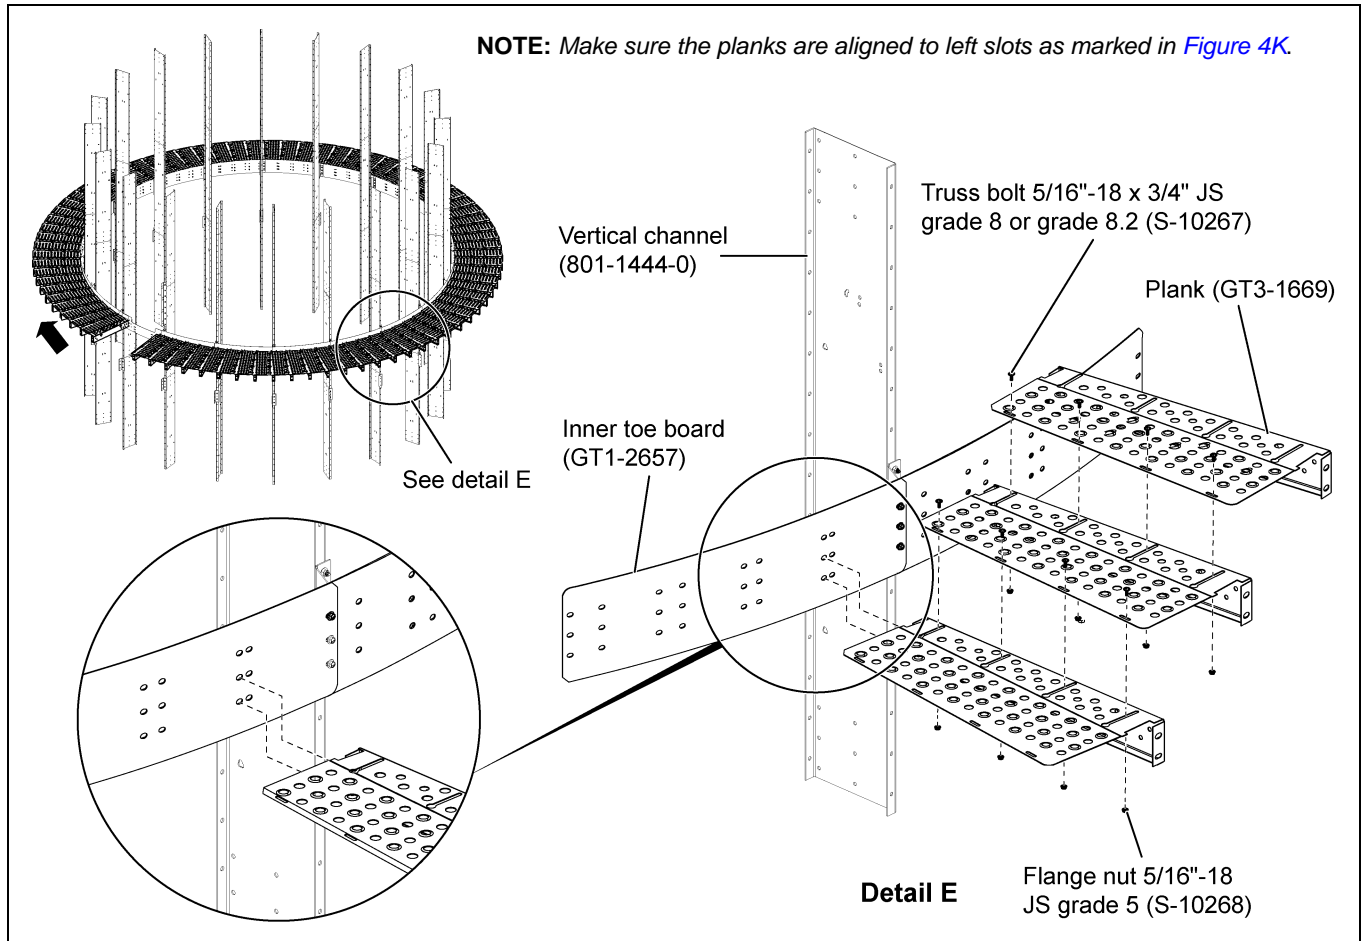

Figure 4J
1. Install planks (GT3-1669) around the dryer on inner toe board (GT1-2657) starting from ladder opening toe board (GT1-2659) as shown by arrow in the Figure 4J.
2. Planks (GT3-1669) are installed to bottom two (2) holes of the inner toe board (GT1-2657) using 3/8"-16 x 1" JS grade 8 or grade 8.2 bolts (S-7485) and 3/8"-16 ZN grade 5 nuts (S-968).
(See Figure 4J.)